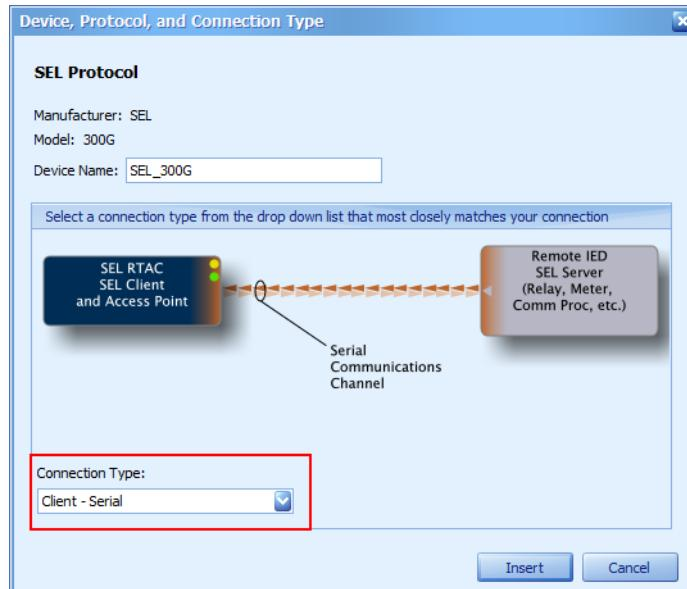

Figure 130 Add an SEL-300G
Step 9. For a serial connection, set the **Connection Type** to **Client – Serial** in the window that appears, as shown in *Figure 130*. Select **Insert**.